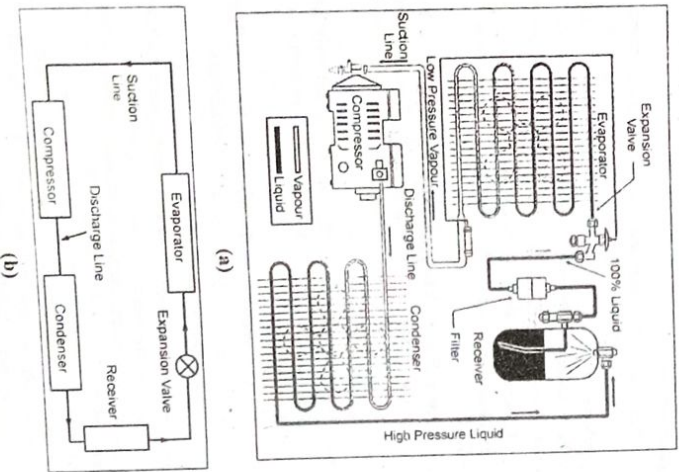

Fig. 1 : Vapour Compression Refrigeration System
Construction : Vapour compression refrigeration system is shown in figure 1.
- Working :** As per figure 1, vapour refrigerant with low pressure and high temperature enters into the compressor from the evaporator through suction line. Here vapour gets compressed up to high pressure and reaches the condenser through discharge line. Refrigerant vapour in the condenser releases the latent heat in the evaporator, absorbed from the refrigerated space, and changes it into liquid and collects it in the receiver. The controlled refrigerant from the expansion valve gets collected in the evaporator and after this the liquid absorbs latent heat from the refrigerant space in the evaporator and changes it into gaseous state and enters into the condenser. In this way, the refrigerated space is cooled when the heat absorbed in the evaporator is released from the condenser. This process is repeated again and again. In this the objects remain cool continuously.